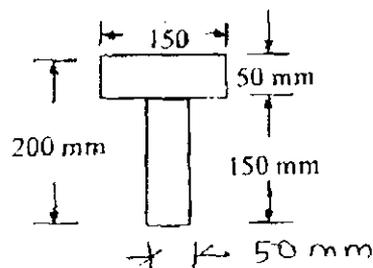

Fig. 4. (Qn. 13 (b))
- (b) Two wooden planks 50 mm × 150 mm in section is used to form a Tee section as shown in fig. 4. If a bending moment of 3400 Nm is applied with respect to the neutral axis, find the extreme fibre stresses and the total tensile force.